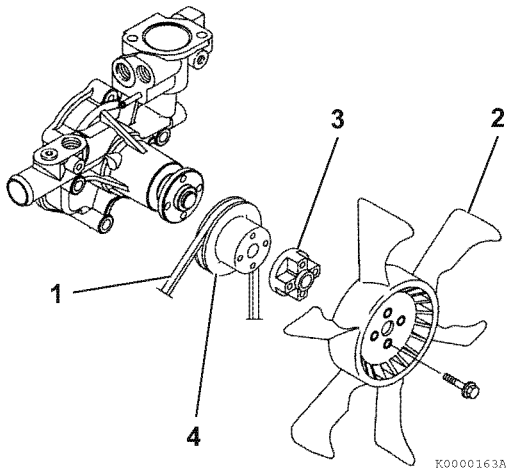

Figure 7-8
2. Remove the engine coolant fan guard (if equipped), engine coolant fan (2, **Figure 7-8**), spacer (3, **Figure 7-8**) if equipped, V-pulley (4, **Figure 7-8**) and cooling fan V-belt (1, **Figure 7-8**).